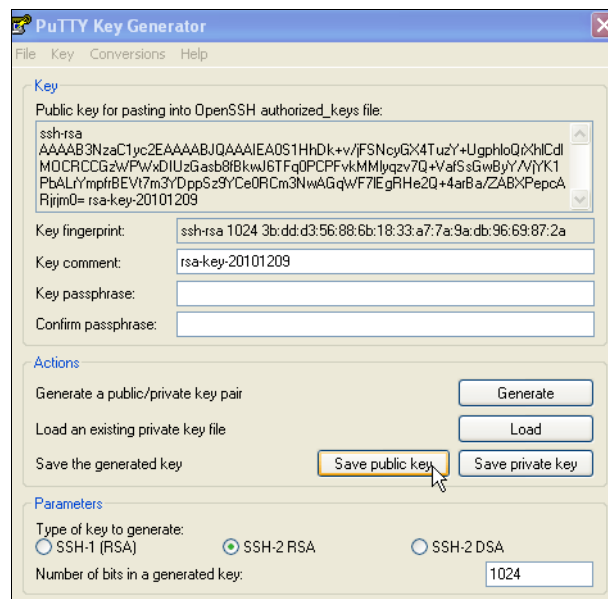

Figure A-3 Save public key
3. After the keys are generated, save them for later use. Click **Save public key**, as shown in Figure A-3.